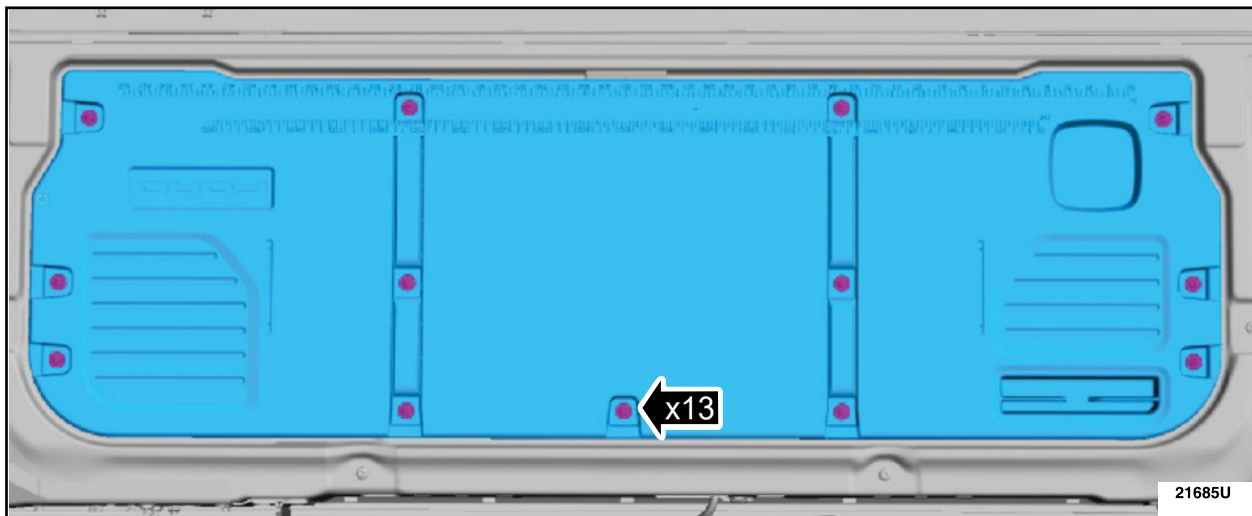

FIGURE 20
24. If equipped, remove the workspace tailgate access panel bolts and the workspace tailgate access panel. See Figure 20.